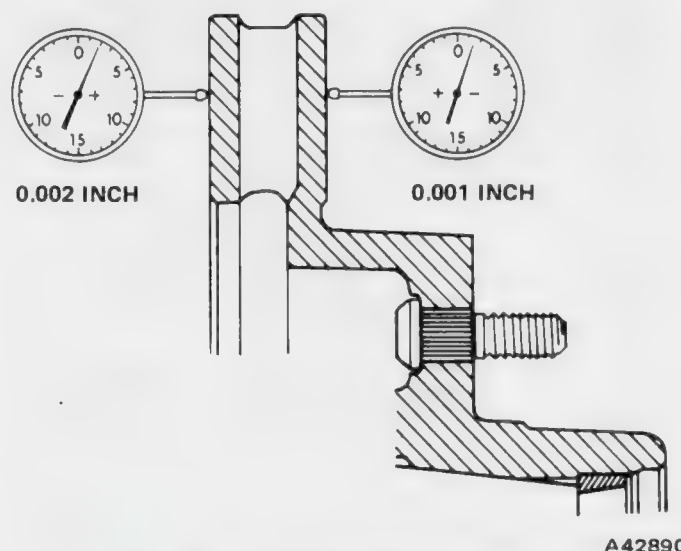

Fig. 2F-38 Checking Thickness Variation
- (9) Thickness variation must not exceed 0.0005 inch (0.01 mm). Thickness variations can cause pedal pulsation and vibration when applying brakes.
- (10) If thickness variation exceeds tolerance, replace or refinish rotor.
- (11) Check hub-to-bore runout. Wheel mounting surface of hub must be square with centerline of bearing cup bore to within 0.010 inch (0.25 mm). Refer to figure 2F-39.